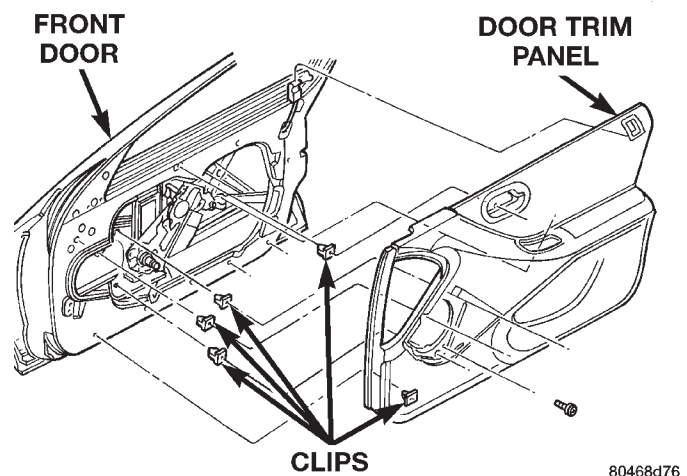

Fig. 23 Door Trim Panel Clips
- (4) Disengage clips holding perimeter of trim panel to door (Fig. 23).
- (5) Lift trim panel upward and disengage trim panel from upper retainer channel.
- (6) Tilt trim panel away from door.
- (7) Disengage clip holding latch linkage to back of inside door handle.
- (8) Disconnect electrical connectors as necessary.
- (9) Separate door trim panel from door.